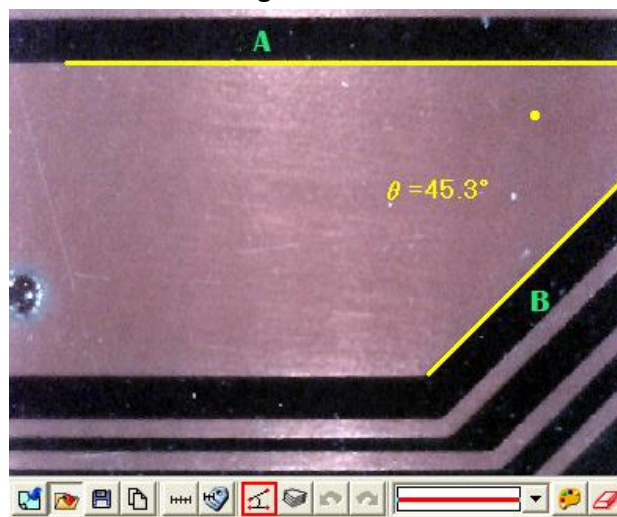

Fig 5-72 4 Points Chamfer
- (9) 4 Points Angle: Use  to measure an angle but only see 2 unparallel lines shown on the object. See Fig 5-72, to draw a 1st line from the object (see line A), and to draw the other unparallel line (see line B), the angle can be automatically calculated. See Fig 5-72. There is a small dot show 45.3°.